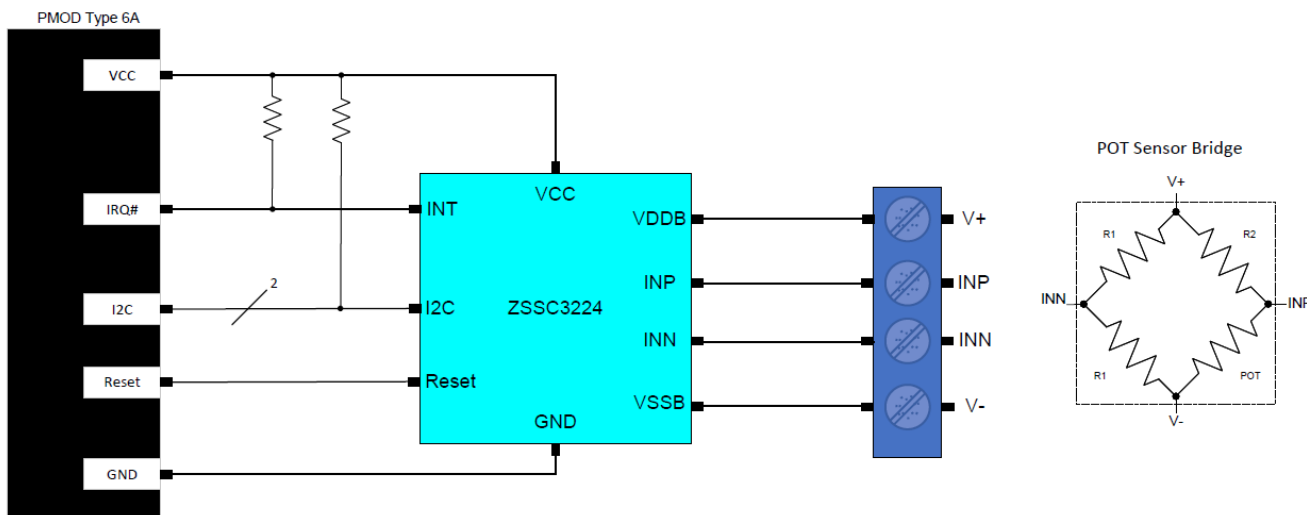

Figure 2. US082-SSC3224EVZ Block Diagram
For this demo, the sensor bridge is wired as shown in Figure 2.
3. Setup a sensor bridge as shown in Figure 2.